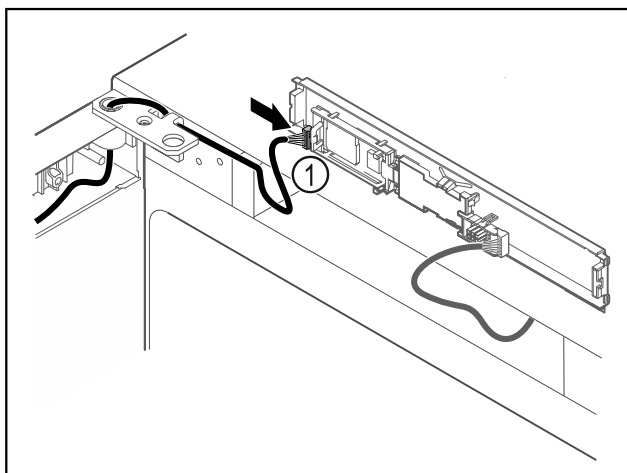

Fig. 64
- Connect the plug Fig. 64 (1) to the circuit board.